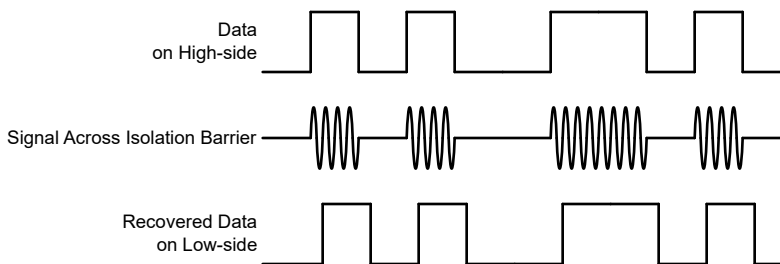

Figure 7-4. OOK-Based Modulation Scheme
The AMC23C11 uses an on-off keying (OOK) modulation scheme, as shown in Figure 7-4, to transmit the comparator output states across the SiO₂-based isolation barrier. The transmit driver (TX) shown in the Functional Block Diagram transmits an internally-generated, high-frequency carrier across the isolation barrier to represent a digital *one* and does not send a signal to represent a digital *zero*.